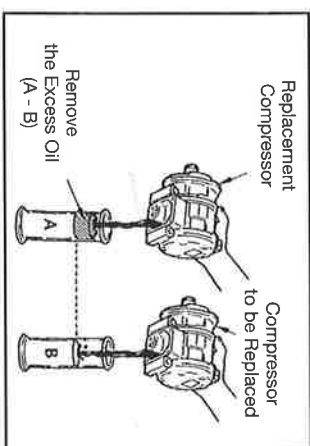

Fig. 1
NOTE: Not all DENSO compressors require the service valve(s) to be reused. If the compressor type does not use a separate service valve(s), it is **mandatory** to still verify the level of compressor lubricant. (See Fig. 1)
4. Verify the level of compressor lubricant. (See Fig. 1)